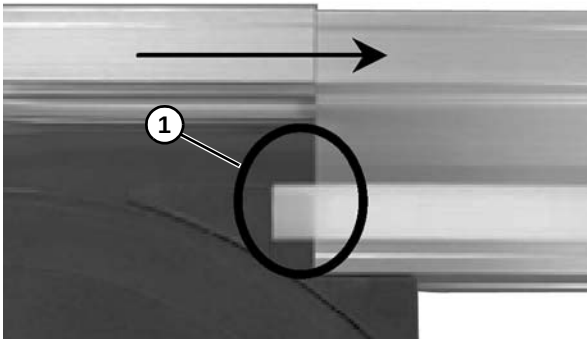

Figure 63
2. The step is applied onto out feed end (**Figure 63, item 1**) as well.